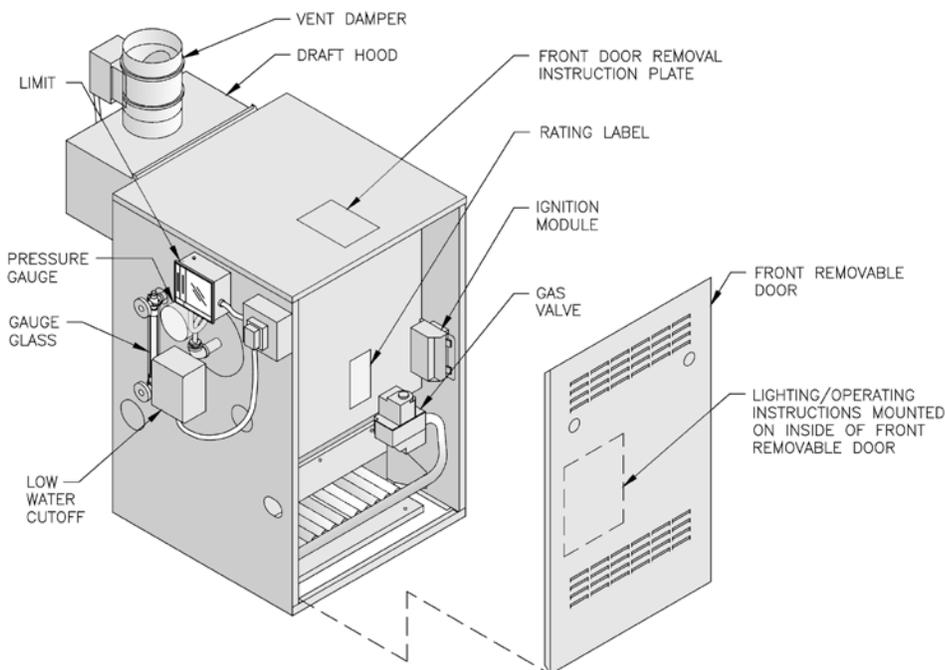
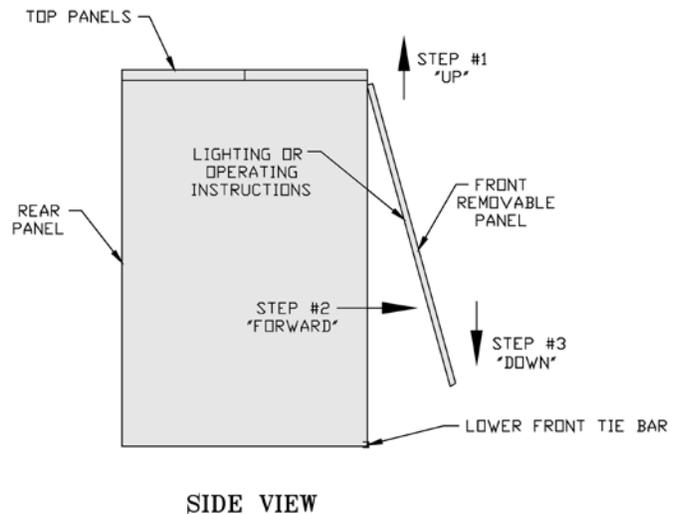

Figure 1: Control Locations
Figure 3: Jacket Front Panel Removal
1. **Limit** A device which automatically interrupts boiler operation when the steam pressure exceeds the set point. See Figure 1. Maximum allowable pressure is 15 psi. Steam pressure can be read on the Pressure Gauge.
2. **Low Water Cutoff** A device which automatically interrupts boiler operation when the surface of the boiler water falls to the lowest permissible operating level. See Figure 1. The lowest permissible operating level is indicated on a plate adjacent to the gauge glass. The low water cutoff automatically resets when water returns to its normal level. Boiler operation resumes with a call for heat.
5. **Intermittent Ignition System** See Figure 1. The Electronic Ignition (EI) System consists of:
6. **Continuous Ignition System (Standing Pilot)** See Figure 1. The Continuous Ignition System consists of:
- B. Instructions** to place boiler in operation and to turn off boiler are shown on the Lighting or Operating Instruction label posted on the inside of the front removable door. See Figure 3 for front door removal instructions. The Lighting/Operating Instructions are also shown in Figures 4, 5 and 6. The boiler model number is printed on the rating label (see Figure 1).